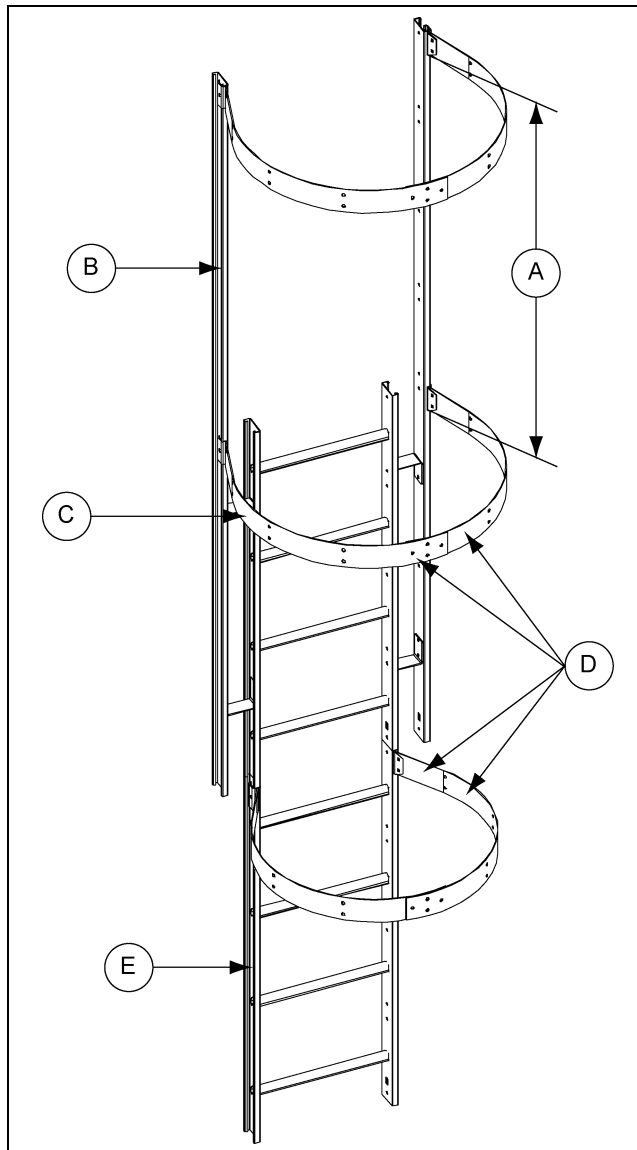

Figure 10C
To complete the safety cage hoop installation, some pre-assembly is required. Attach four (4) safety cage brackets to the extension rails and two (2) safety cage brackets to the second 4' ladder section as shown in Figure 10C. See cage hoop bracket detail on Page 51 for proper installation. Next, bolt each set of safety cage hoop halves together using 5/16" x 1" bolts with the head of the bolt to the inside of the safety cage. You may now bolt these assemblies to the safety cage brackets. Tighten bolts as you go.